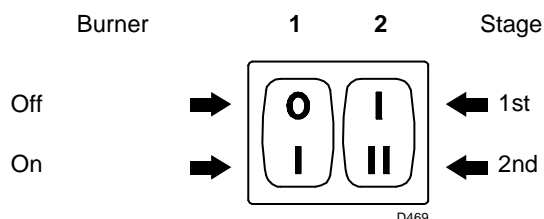
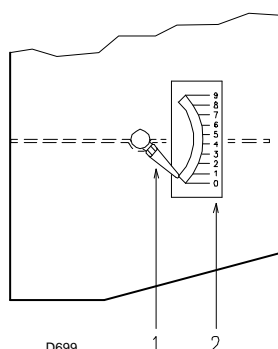
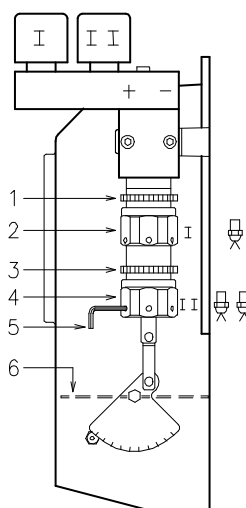

Fig. 22
Fig. 23
Fig. 24
- Start the burner by closing the control devices and with switch 1) (Fig. 22 pag. 19) in the "ON" position. The pump must rotate in the direction of the arrow marked on the cover.
- The pump can be considered to be primed when the light oil starts coming out of the screw 3). Stop the burner: switch 1) (Fig. 22 pag. 19) set to "OFF" and tighten the screw 3).
Set switch 1) (Fig. 22) to "ON".
Keep the burner operating at 1st stage by setting the switch 2) (Fig. 22) to the 1st stage position. Opening of the air gate valve 6) (Fig. 24) must be adjusted in proportion to the selected nozzle: the index 1) (Fig. 23) must be aligned with the notch 2) (Fig. 23) specified in table (Tab. E) This adjustment is achieved by turning the hex element 2) (Fig. 24):
2.3 notch (Fig. 23) aligned with index 1).
When the adjustment is terminated lock the hex element 2) (Fig. 24) with the ring nut 1).
N° = Notch 2) (Fig. 23)
Set switch 2) (Fig. 22 pag. 19) to the 2nd stage position and adjust the air gate valve 6) (Fig. 24) by turning the hex element 4) (Fig. 24), after having loosened the ring nut 3) (Fig. 24).
in order to facilitate adjustment of hex elements 2) and 4) (Fig. 24), use a 3 mm Allen key 5) (Fig. 24).